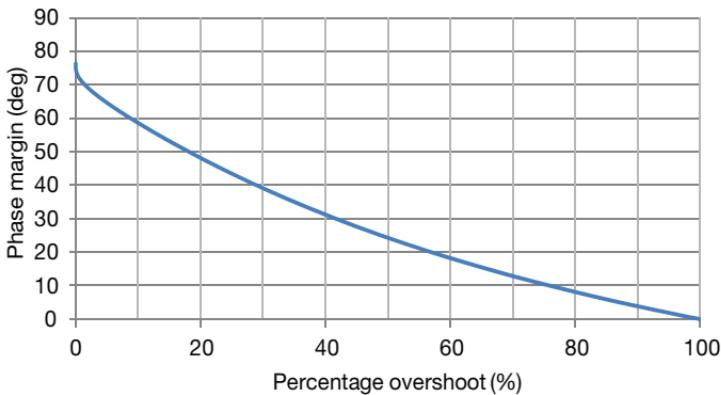

Figure 47: Stability – phase margin vs. percentage overshoot
Other op amp topologies will have different feedback networks; however, the test circuit will be the same for most cases. Figure 47 shows the exception to the rule (multiple feedback).
- Use percentage overshoot to determine phase margin using Figure 47